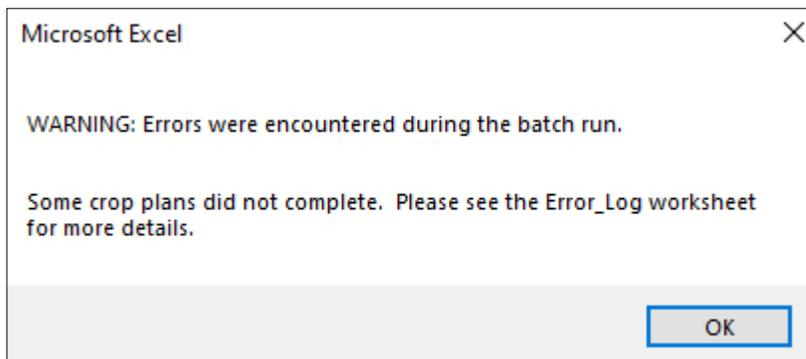

Figure 12. Batch Macro error message.
16. If errors are encountered during the batch run, an error message will appear when the Batch Macro completes (Figure 12). MGM error(s) are recorded in the "Error Log" worksheet. Be sure to debug the crop plan(s) and/or MGM stand worksheet(s) that caused the MGM error(s). MGM does not output any data for crop plans with errors!